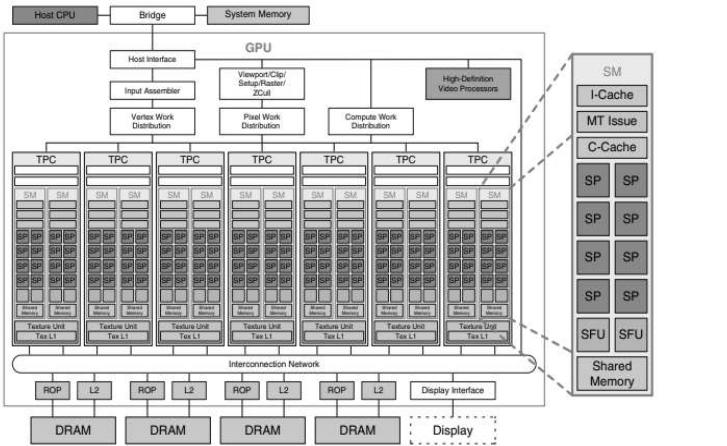

Figure 1.9 Basic unified GPU architecture
Many processor cores are grouped into multithreaded multiprocessors in a unified GPU processor array. A GPU with 112 streaming processor (SP) cores structured as 14 multithreaded streaming multiprocessors (SM) is shown in Figure 1.9. Each SP core is extremely multithreaded, with 96 concurrent threads and their hardware states to manage. An interconnection network connects the CPUs to four 64-bit-wide DRAM partitions. Each SM is equipped with eight SP cores, two SFUs, instruction and constant caches, a multithreaded instruction unit, and shared memory. This is the NVIDIA GeForce 8800's implementation of the Tesla architecture. Traditional graphics applications such as vertex, geometry, and pixel shading run on the unified SMs and SP cores, while computation programs operate on the same processors.
By adjusting the number of multiprocessors and memory partitions, the processor array design can be scaled to smaller and bigger GPU systems. Seven clusters of two SMs share a texture unit and a texture L1 cache in Figure 1.9. Given a set of coordinates into a texture map, the texture unit returns filtered results to the SM. Because the filter regions of support for subsequent texture requests frequently overlap, a tiny streaming L1 texture cache can help minimize the number of queries to the memory system. A GPU-wide interconnection network connects the processor array to raster operation (ROP) processors, L2 texture caches, external DRAM storage, and system memory. The number of processors and memories in a GPU system can be scaled to meet the needs of various performance and market sectors.